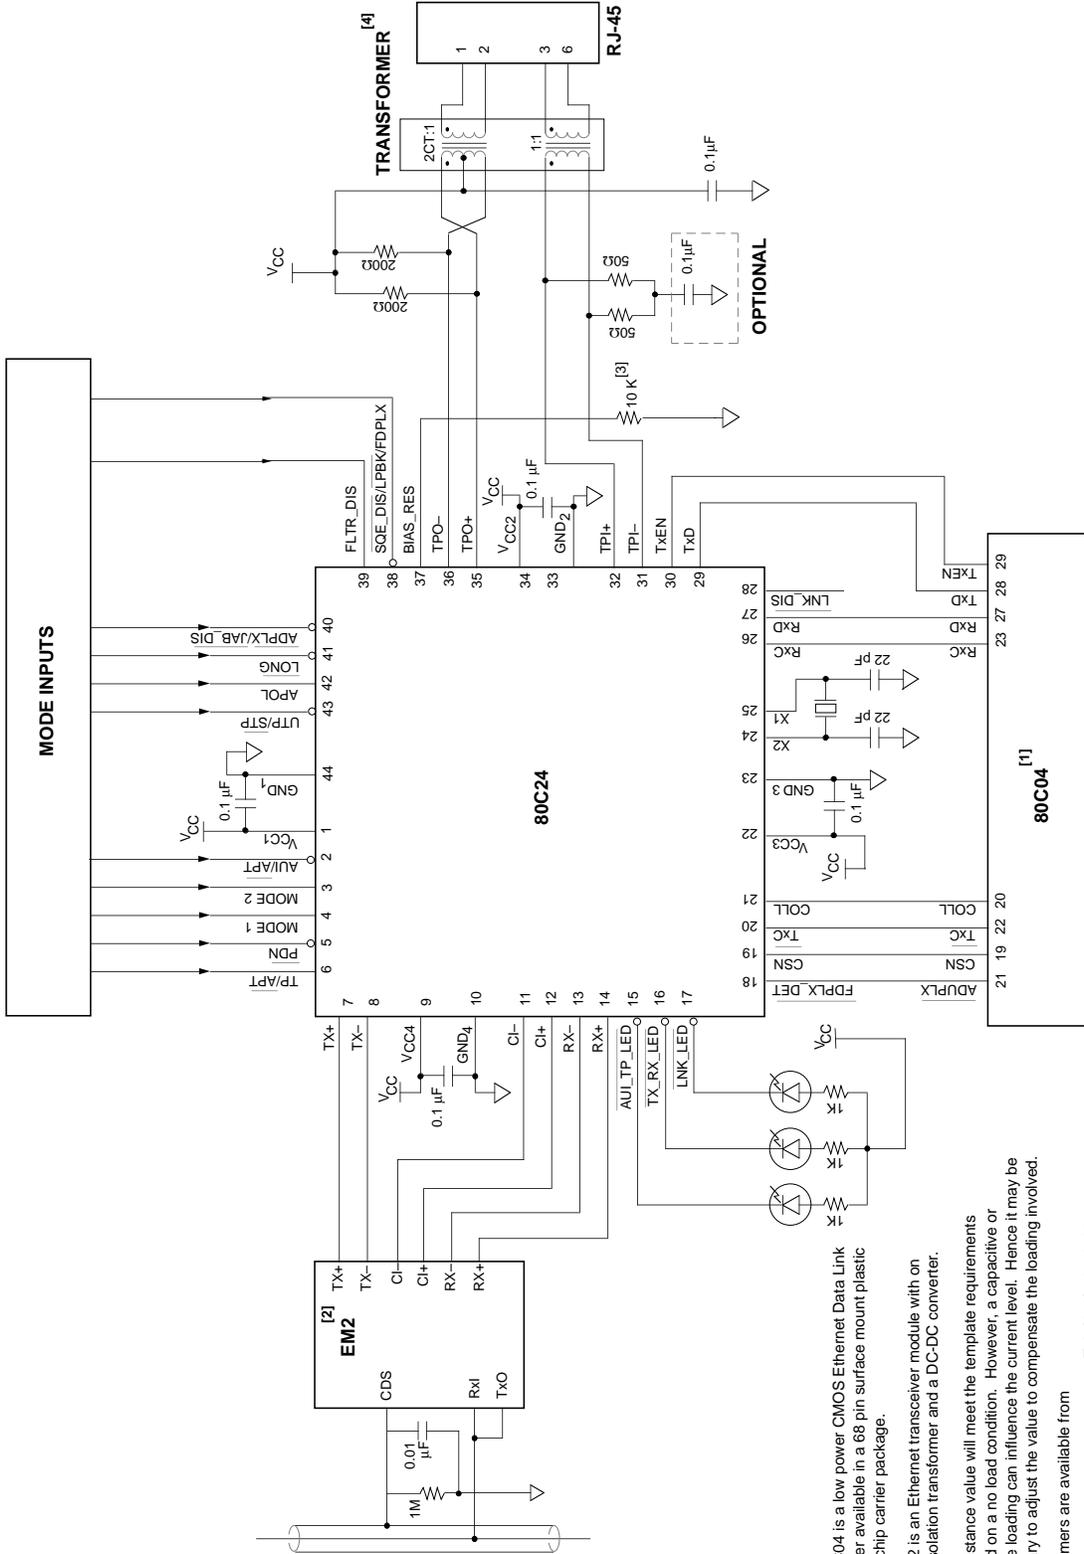

Figure 2. 80C24 in a Typical Application
with a ratio of 2:1 on transmit and a 1:1 on receive, with two 200 ohm resistors connected as shown in figure 2. The output driver is a current source. The output current level is set by the values of the resistor tied between the BIAS_RES (Pin 37) & GND. The current level is determined by the following equation.
The receiver receives the Manchester-encoded data from the twisted pair lines (TPI±) and passes it on to the ENDEC side, where it gets decoded back into the receive clock RXC and the receive data RXD. The inputs first goes through a receive filter, which is a continuous time 3rd order low pass filter with a typical 3 dB cutoff frequency of 20-25 Mhz. The filter's output then passes through two different types of comparators, namely threshold and zero crossing. The threshold comparator compares the TPI± inputs with fixed positive and negative thresholds called the squelch levels. The zero crossing comparator senses the transition point on the TPI± inputs without introducing excess jitter and the outputs goes to the PLL in the decoder. The receiver is transformer coupled and needs to be terminated with a 100Ω resistor or two 50Ω resistor and a capacitor as described in figure 2.
The V_{CC} connection to the transmit transformer center tap shown in Figure 2 has to be well decoupled in order to minimize common mode noise injection from V_{CC} onto the TP wires. It is recommended that a 0.01 μF decoupling capacitor be placed between the center tap V_{CC} to the 80C24 GND plane. This decoupling capacitor should be physically placed within 0.5" of the transformer center tap.
5. TPO_{\pm} loading as shown in Figure 2 or equivalent.